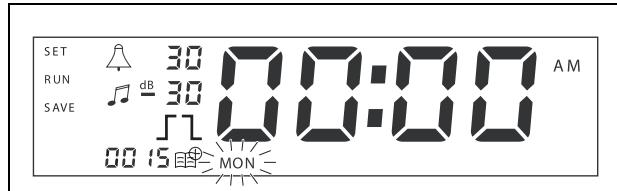

figure 7.2: Programming the day and time of the event
- 4 Press and hold in the rotary selector to start the programming sequence. The full display will reappear, and the day of the week will start to flash (see figure 7.2).